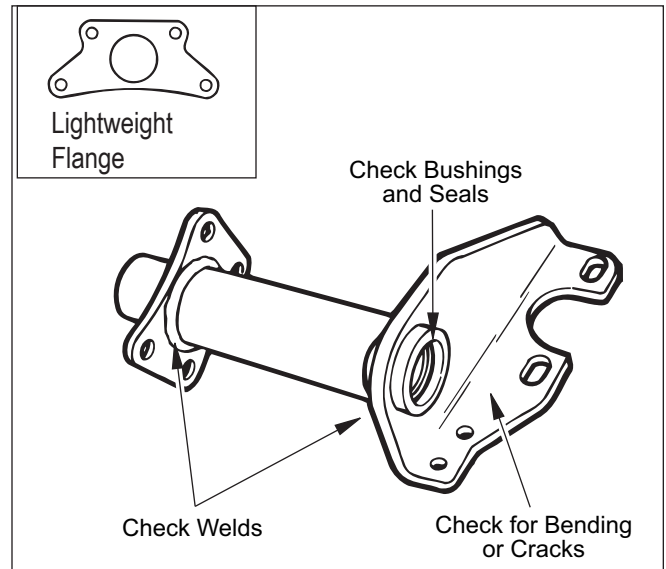

Figure 41. Air Chamber Bracket Inspection
1. Check for a bent, broken, or cracked arm and cracked welds. Refer to Figure 41. Replace bracket if any are evident.